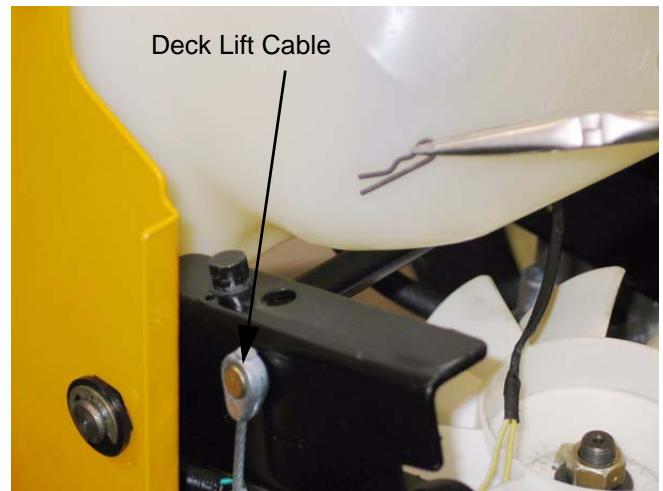

Figure 11.6
- 11.6. With the deck height control lever all the way forward, remove the hairpin clips that secure the deck lift cables to the arms on the deck lift shaft. See Figure 11.6.